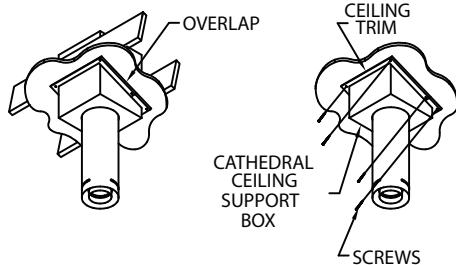

Figure 22
Step 9. Install the black Trim Collar around the outside of the Cathedral Ceiling Support Box. The two pieces of the Trim Collar slide over one another to allow for easy adjustment around the Support Box. Using the six (6) screws provided, secure the four corners and the overlapping sections of the Trim Collar to the underside of ceiling. You may want to pre-drill the holes for the overlapped sections for ease of installation (*Fig. 22*).